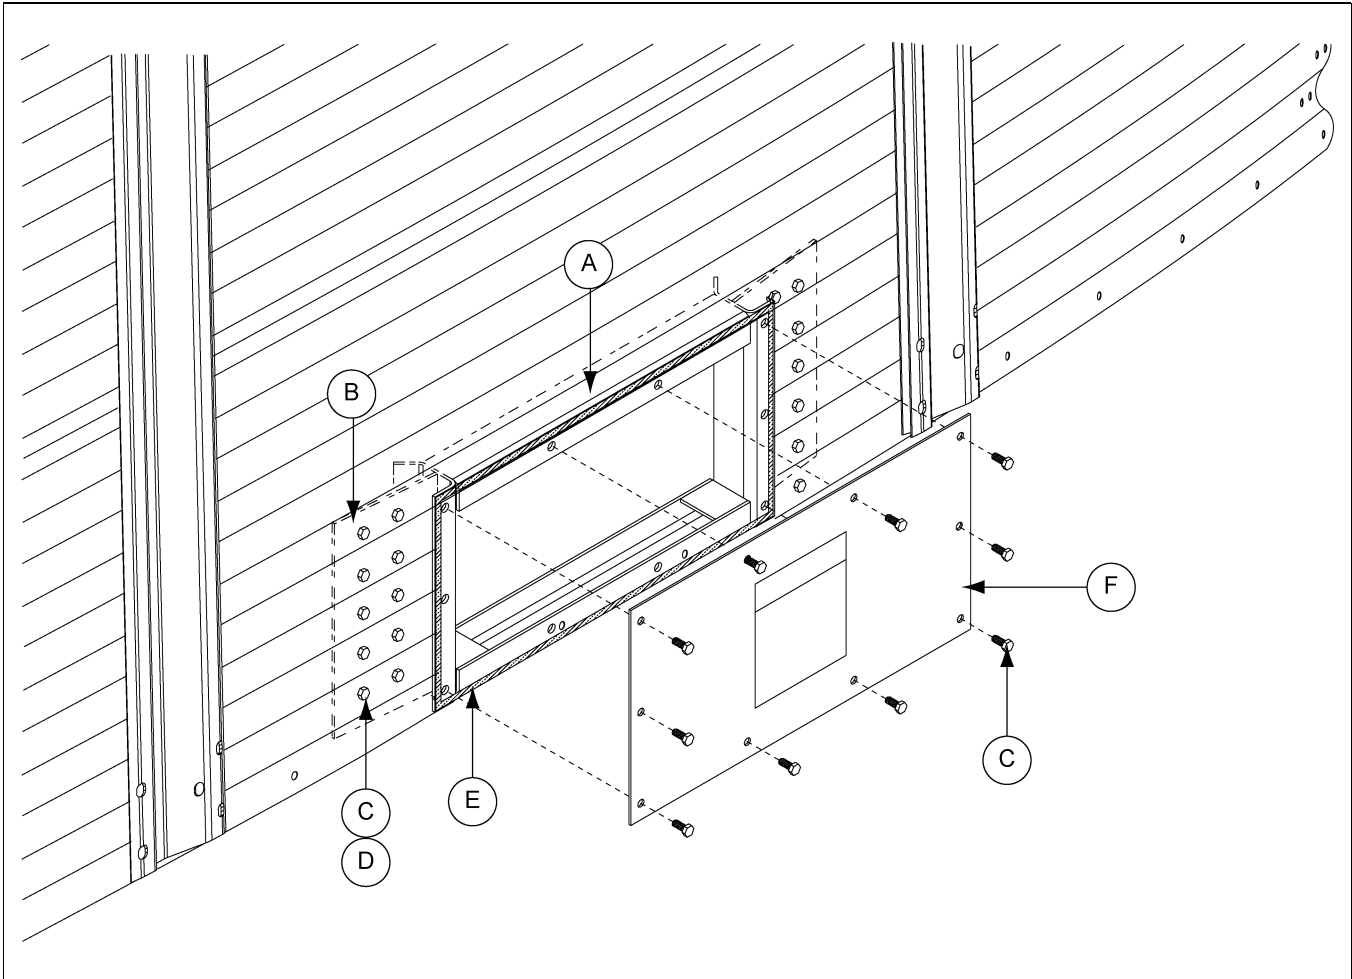

Figure 2
7. Install the cut out base angle above the plenum door (A).
8. Apply the seal (E) around the outside edges of the plenum door (A) as shown in Figure 2.
9. Install the panel (F) to the plenum door (A) with ten (10) bolts (C) and neoprene washers.